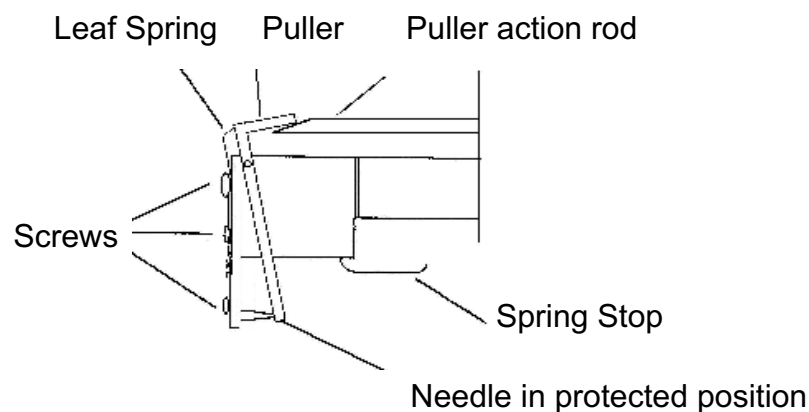

Figure 1: De-capper arm in home position
9. Open the plexiglass cover and inspect the de-capper arm. Its position should be as indicated in the figure 1:
PLUGGO's red emergency stop button (see Fig 1) works like a normal switch i.e. after use, it has to be pressed again to reset and if necessary press the start button again. It is recommended to test this function at this time.